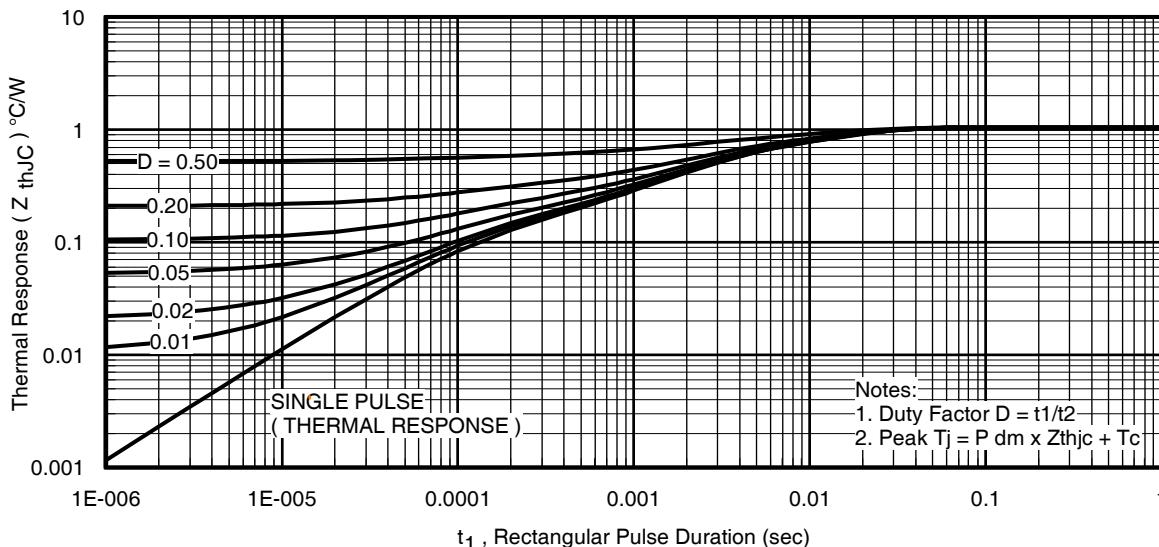

Fig 14. Maximum Effective Transient Thermal Impedance, Junction-to-Case
Notes on Repetitive Avalanche Curves , Figures 14, 15: (For further info, see AN-1005 at www.irf.com)
7. ΔT = Allowable rise in junction temperature, not to exceed T_{jmax} (assumed as $25^\circ C$ in Figure 14, 15).